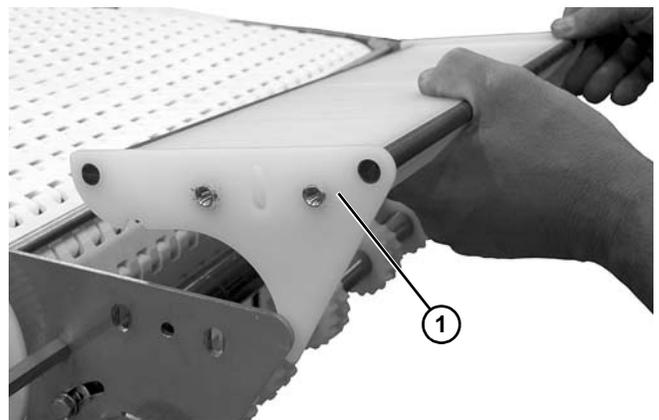

Figure 61
9. Remove the wear bar assembly (**Figure 61, item 1**) from the power transfer.